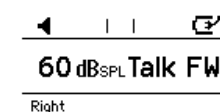

Figure 12
On the MA 25e/MA 27e, Talk Forward is activated by holding down the **Hearing Level dB** (2) dial. Rotating the dial while in the talk-forward mode will adjust the level of the talk-forward to the patient (Figure 12).
To access the **Tone Setup menu** press **F1** and **F4** simultaneously for 2-3 seconds. Once in the Menu (Figure 12), the different Setup options are listed and can be entered using the function keys or the **Frequency Hz** dial. See Table 9 and Table 10 for further explanation.